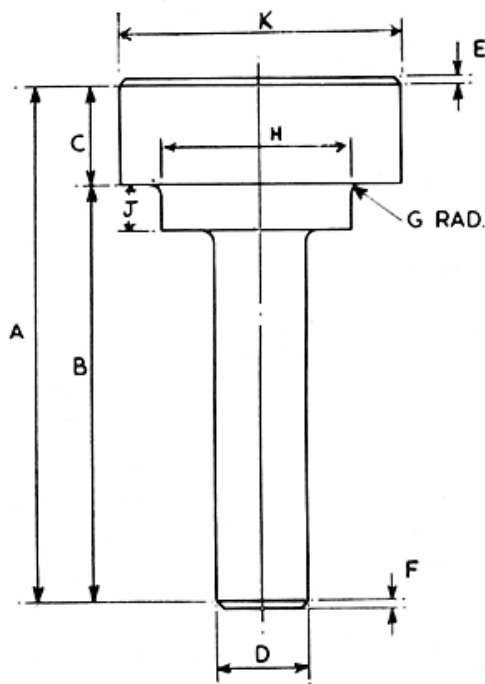

Fig. G.13.
4. Using the valve guide bore as a pilot press the insert home with the inserting tool (Fig. G.13).